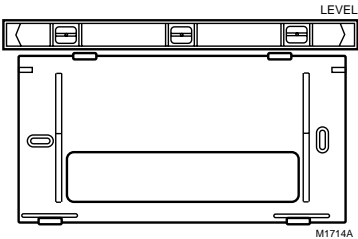

Fig. 2. Leveling mounting plate.
2. Use a level to make sure mounting plate is level. Level for appearance only; the thermostat functions correctly even when not level. See Fig. 2.